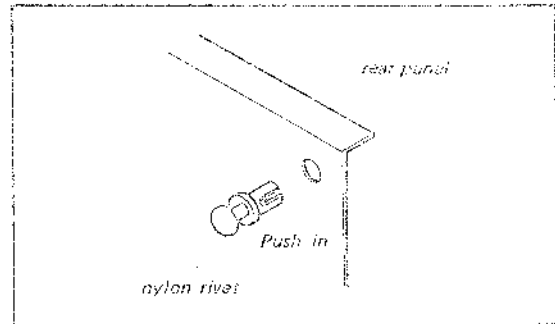

Fig. 2-14. Nylon rivet replacement
3. To reinstall the rivet, insert the flared part into the opening first, and then push the head as far as it goes as shown in Fig. 2-14.